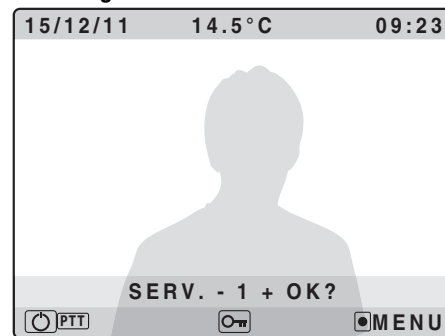

Fig.3d
- To enable the BUS relay Art.2305 (if connected on the pass) keep pressed the button until the display shows the picture in figure 3d then select the BUS relay to enable by the buttons – and + and confirm with OK button.